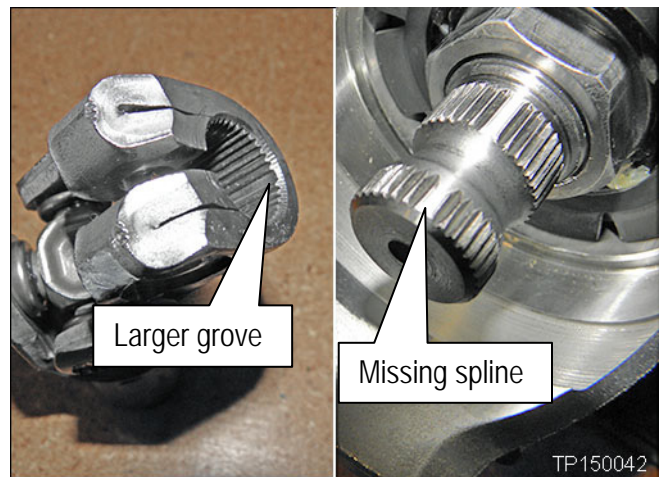

Figure 29
- Make sure to match the alignment point (larger groove) on the joint with the alignment point (missing spline) on the shaft (see Figure 29).